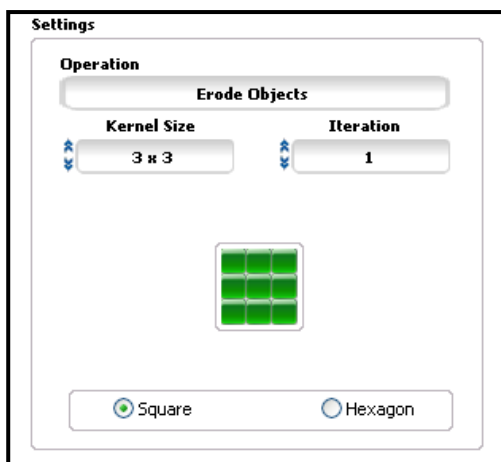

Figure 32. Configure operation parameters.
- Set the appropriate parameters i.e. Erode Objects: connectivity can be set to square or hexagon increase, choose Kernel size (from 3x3 to 7x7) and the number of iterations [Figure 32].